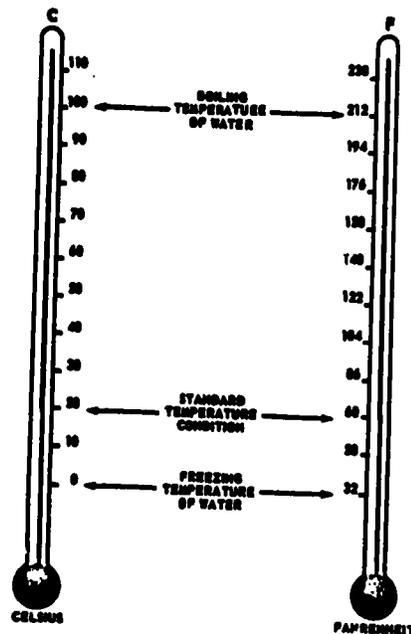

Fig 1-1. A comparison between the Celsius and the Fahrenheit thermometer scales.
• **FAHRENHEIT SCALE** - This scale figure 1-1, is based on the relative positions of the mercury in the thermometer when water is at the freezing point and when water is boiling. In order to use this instrument to measure temperature in between these two points, the distance was divided into 180 equal increments which were called degrees. The point where water will either freeze or ice will melt, under normal atmospheric conditions, was labeled as 32 degrees. Whereas the location, on the scale (thermometer) where water would boil was indicated as 212 degrees.
• **CELSIUS SCALE** - This scale figure 1-1, formally referred to as centigrade, was based on the decision to divide the area between the freezing and boiling points of water into equal increments. 0 degrees indicates the freezing point and 100 degrees indicates the point at which water will boil.